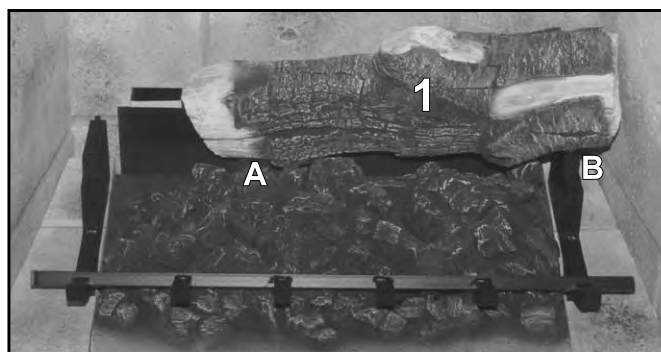

Figure 73: Log 1 in Place.
1. Install Right Rear Log. The right side sits on the grate with the groove on the bottom of the log fitting onto the top of the grate (see Figure 73). Insert the log pin into the top of the ember burner (see A in Figure 73). Align the log front edge with the front section of the grate (see B in Figure 73).